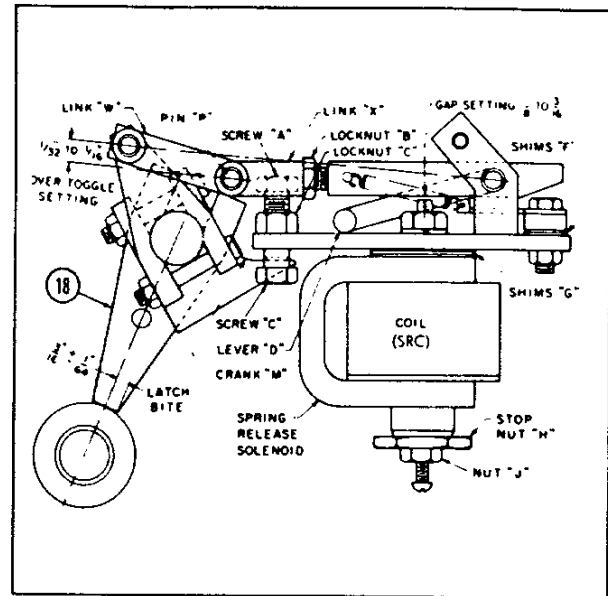

Fig. 18 - Spring release latch.
To change bite of spring release latch (Fig. 18), disconnect links (W and X) by removing pin (P) and turning screw (A) against crank (M). Check visually to see that bite is 3/16-in., or point of contact at about the center of the latch (18). Lock screw (A) with locknut (C). Adjust link (X), if necessary, so that pin (P) can be easily inserted. To adjust link (X), loosen locknut (B) and rotate the link end to increase or decrease its length.